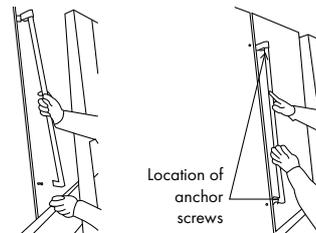

Figure 2
2. Place each handle on top of the secured bolts and make sure the handles contact the door surface closely. See Figure 2.